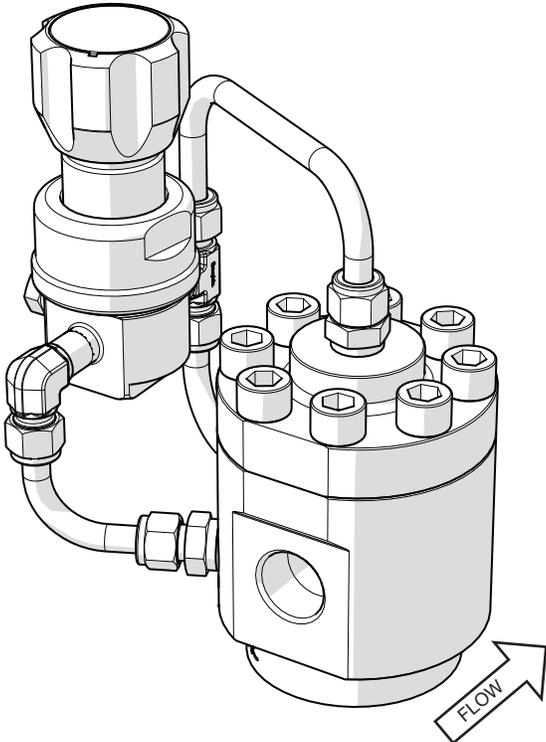
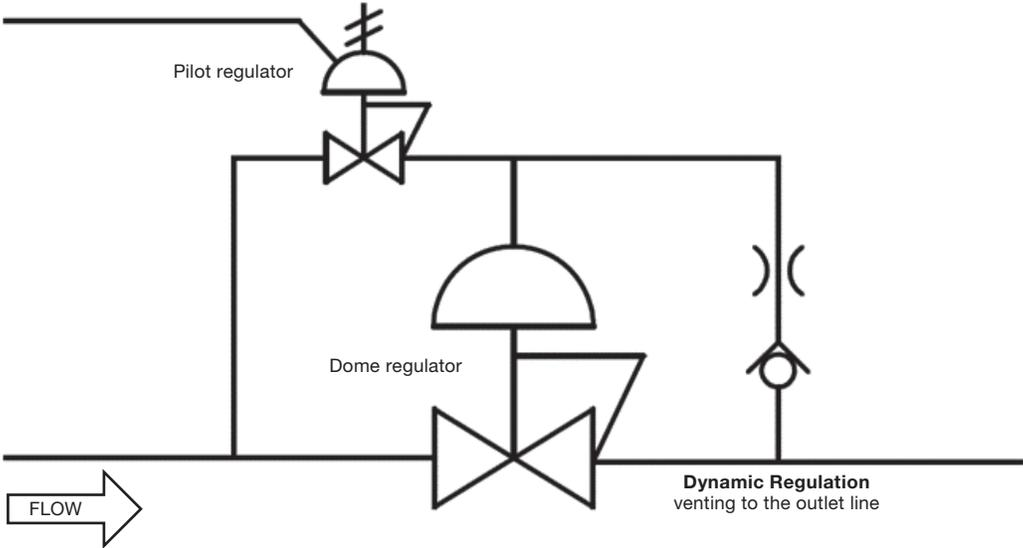
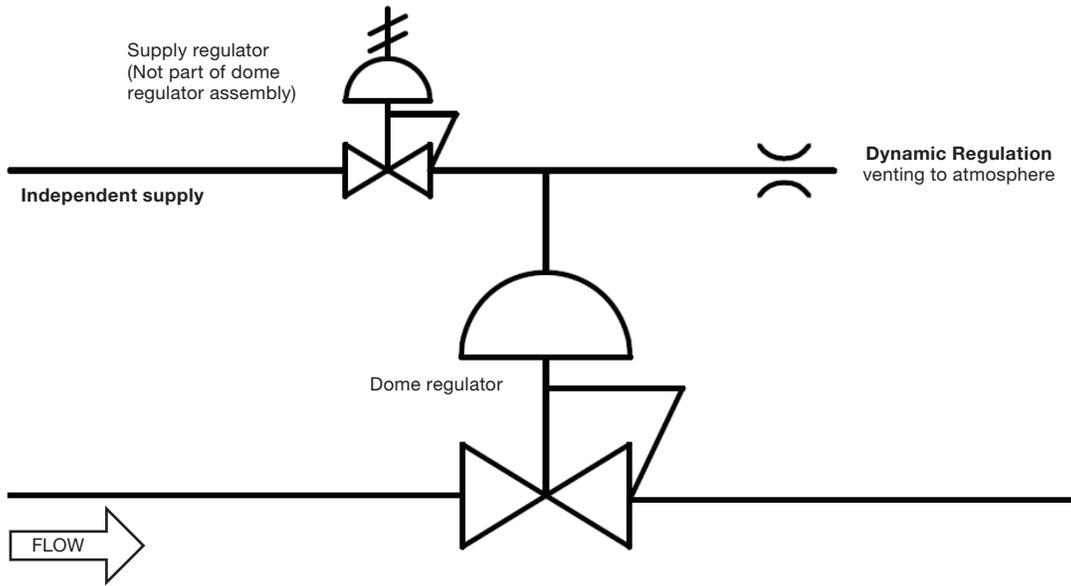

Figure 1
Figure 2
Figure 5
- The preferred mounting position of the regulator is horizontal with the spring housing/dome facing upwards according to Figure 1 (See page 9). Alternative mounting positions may increase the risk of component wear.
- **Integral pilot control.** In this setup the dome loaded regulator comes supplied with a pilot regulator as part of the assembly (Figure 1). The pilot regulator, fed from the system pressure, is manually operated to control the dome pressure (Figure 2). This setup is not suitable for liquid applications
- **External dome control.** In this setup the dome pressure is supplied from an independent source, such as a cylinder or mains supply (Figure 5). This setup is suitable for liquid applications.
The best performance will be achieved by allowing a small flow to continuously pass through the pilot regulator. This flow can either be vented through an orifice (Figure 5) or, in gas systems, fed back through an orifice into the downstream piping (Figure 2). This is usually referred to as **dynamic regulation**. If dynamic regulation is not desirable a self-venting pilot regulator would be required. This would result in system media being vented to atmosphere when decreasing the regulator set pressure.